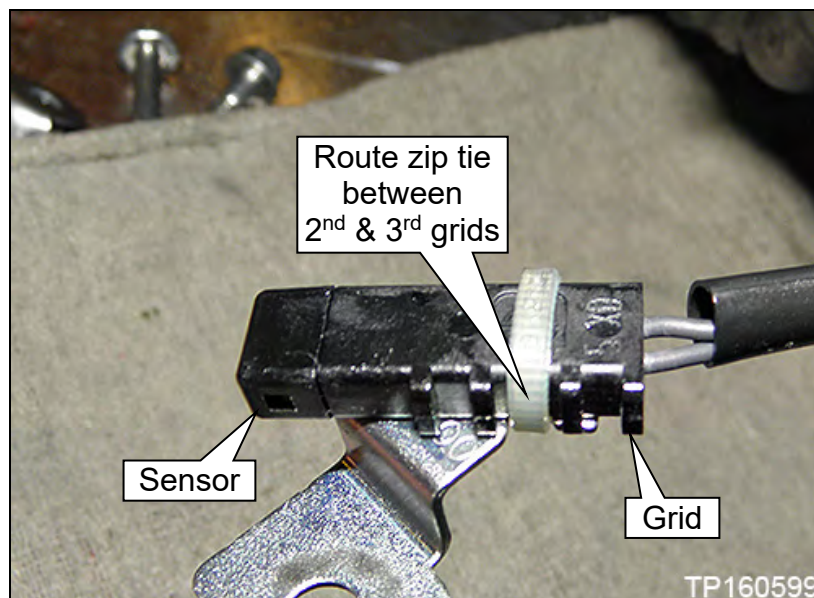

Figure 94
- Locate the zip tie on the fluid temperature sensor as shown in Figure 94.